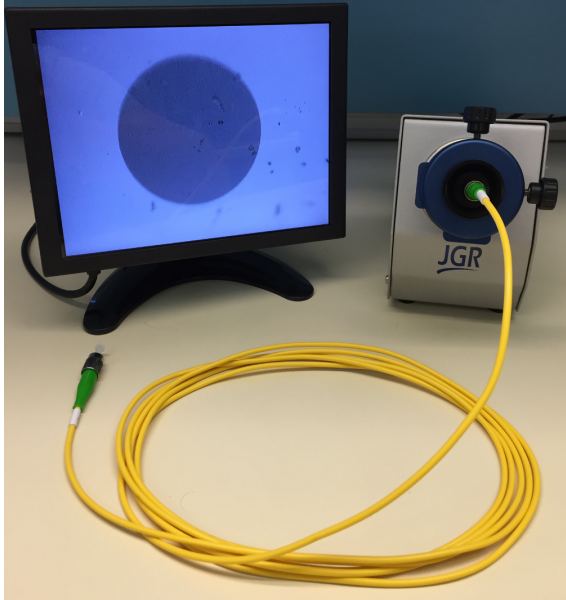
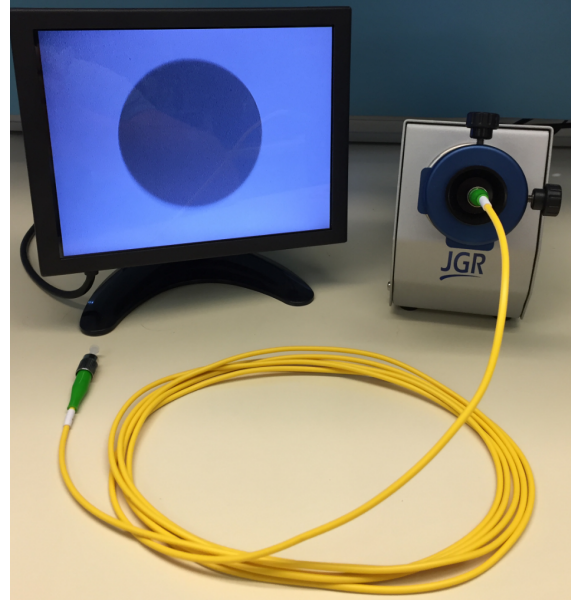

Figure 25: Dirty connector end-face inspection using SANTEC's EFI-100
Figure 26: Clean connector end-face inspection using SANTEC's EFI-100
1. Inspect all connectors before each mating and if needed, clean with a lint-free wipe and/or IPA. Figure 25 shows a dirty connector requiring cleaning. Figure 26 shows a clean connector ready to be mated.